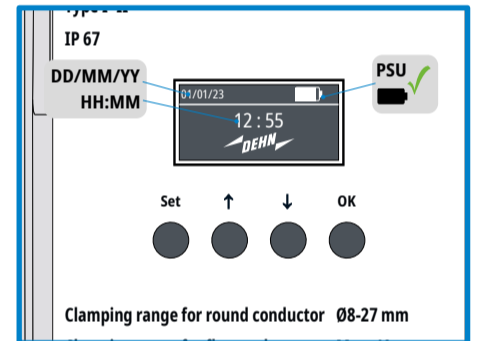

Fig. 6 Start screen
- exit the menu with the **Set** (= „No“) button - the start screen is displayed (Fig. 6) or
- exit the menu with the **Set** (= „Cancel“) button - the start screen (Fig. 6) is displayed
The device display switches to the start screen (Fig. 6).
When the start screen is displayed (Fig. 6), press the **OK** and **Set** buttons simultaneously for 3 seconds to switch to the „Reset“ menu:
- Exit the menu with the **Set** (= „NO“) button - the start screen is displayed (Fig. 6) or
In idle mode (display off) or when the start screen is displayed (Fig. 6), press the **OK** button:
- Exit the menu with the **Set (= „No“)** button - the start screen is displayed (Fig. 6) or
- Exit the menu with the **Set (= „Cancel“)** button - the start screen (Fig. 6) is displayed or
- the start screen (Fig. 6) is displayed
The device display switches to the start screen after 3 seconds (Fig. 6).